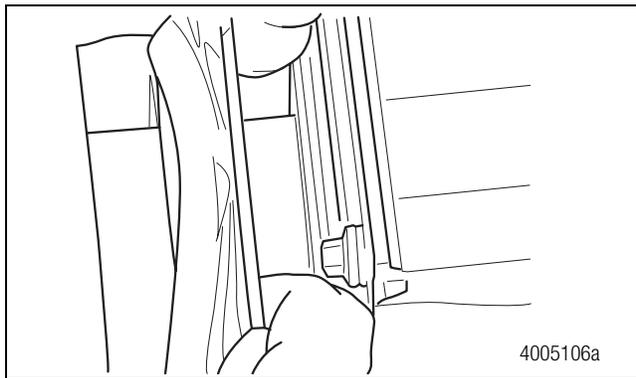

Figure 5.11
10. Use two fingers to stretch the piston boot and pull it over the housing assembly retainer groove. Figure 5.11.